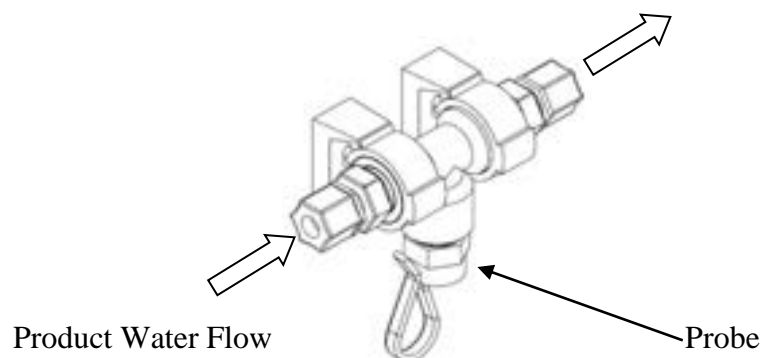

Figure 4
1. Using two (2) clamps and tapping screws provided mount the salinity probe to the bulkhead in a location along the planned tubing run between the product outlet fitting on the membrane skid and the product inlet fitting on the flow panel. The tee must be mounted horizontally so that the probe is on the bottom as shown in Figure 4.